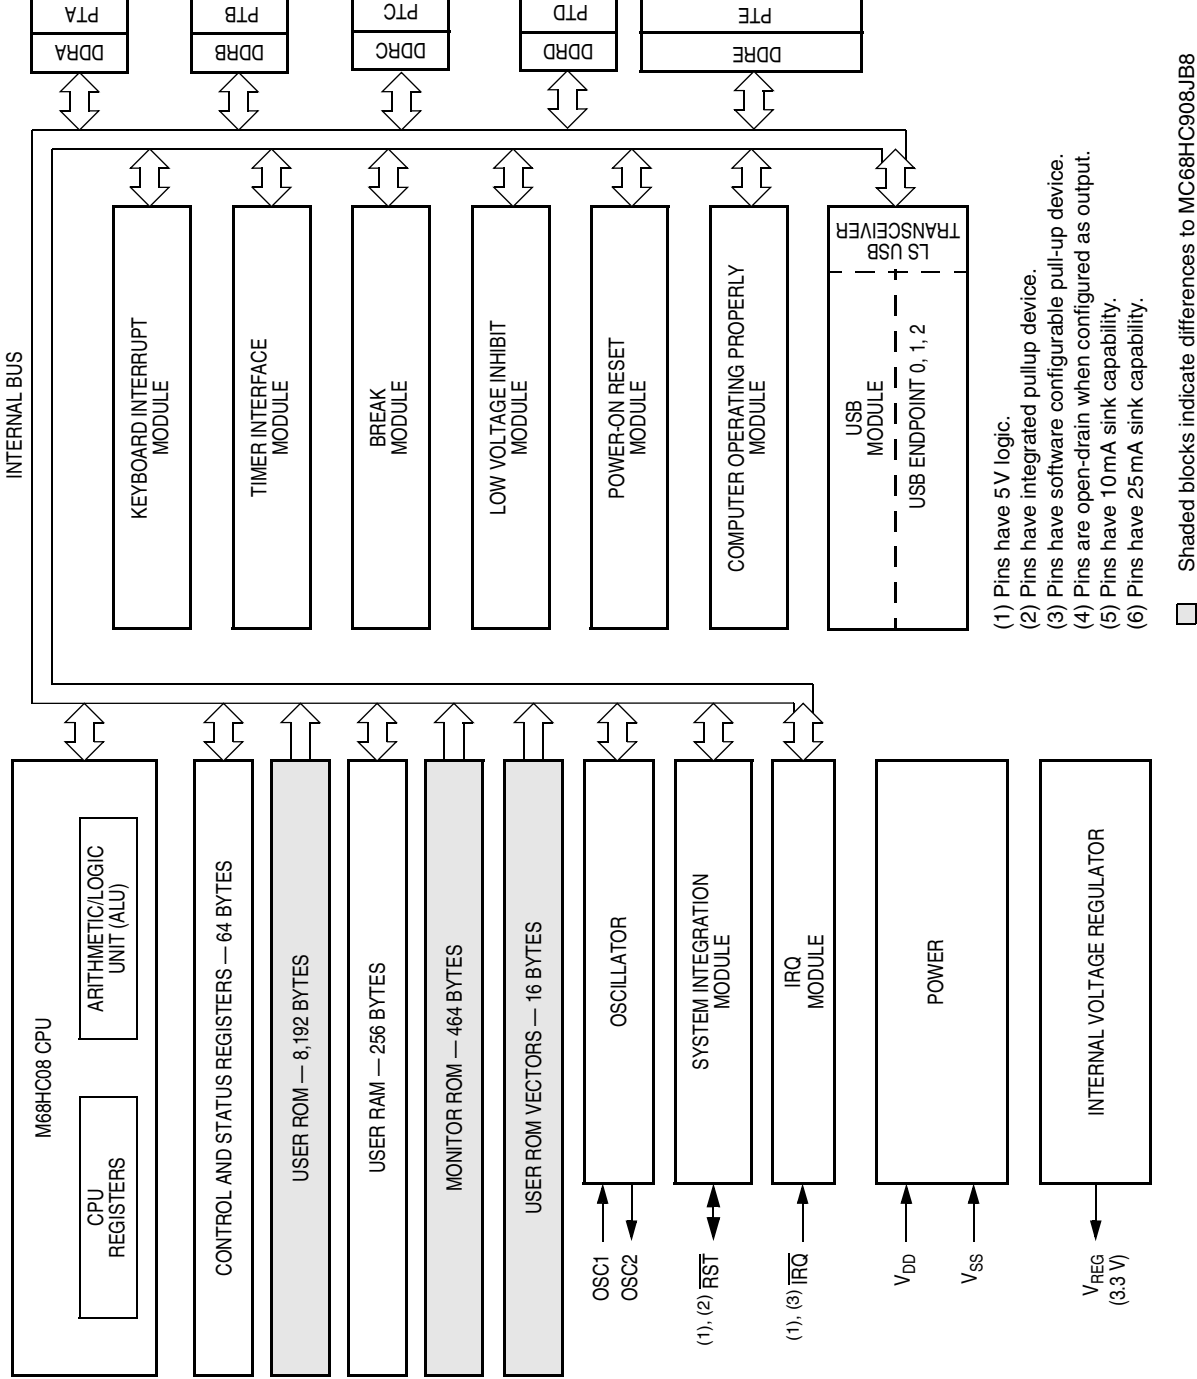

Figure A-1. MC68HC08JB8 Block Diagram
**Figure A-1** shows the block diagram of the MC68HC08JB8.